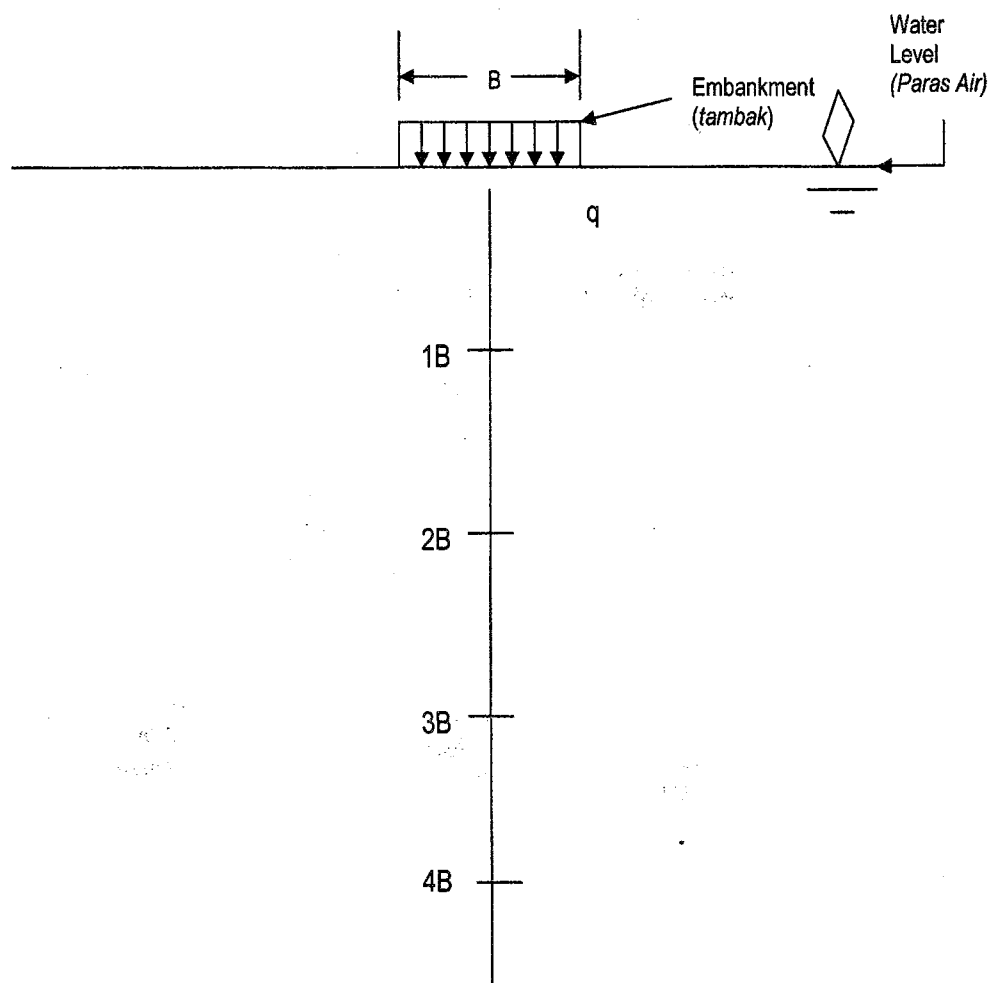

Figure 3
6. Table 4 shows changes in vertical stress with depth due to embankment construction as shown in Figure 3. Embankment width is 10.0 m, thickness 2.0 m, and density of 2000 kg/m^3 . Density of field saturated soil is also 2000 kg/m^3 .